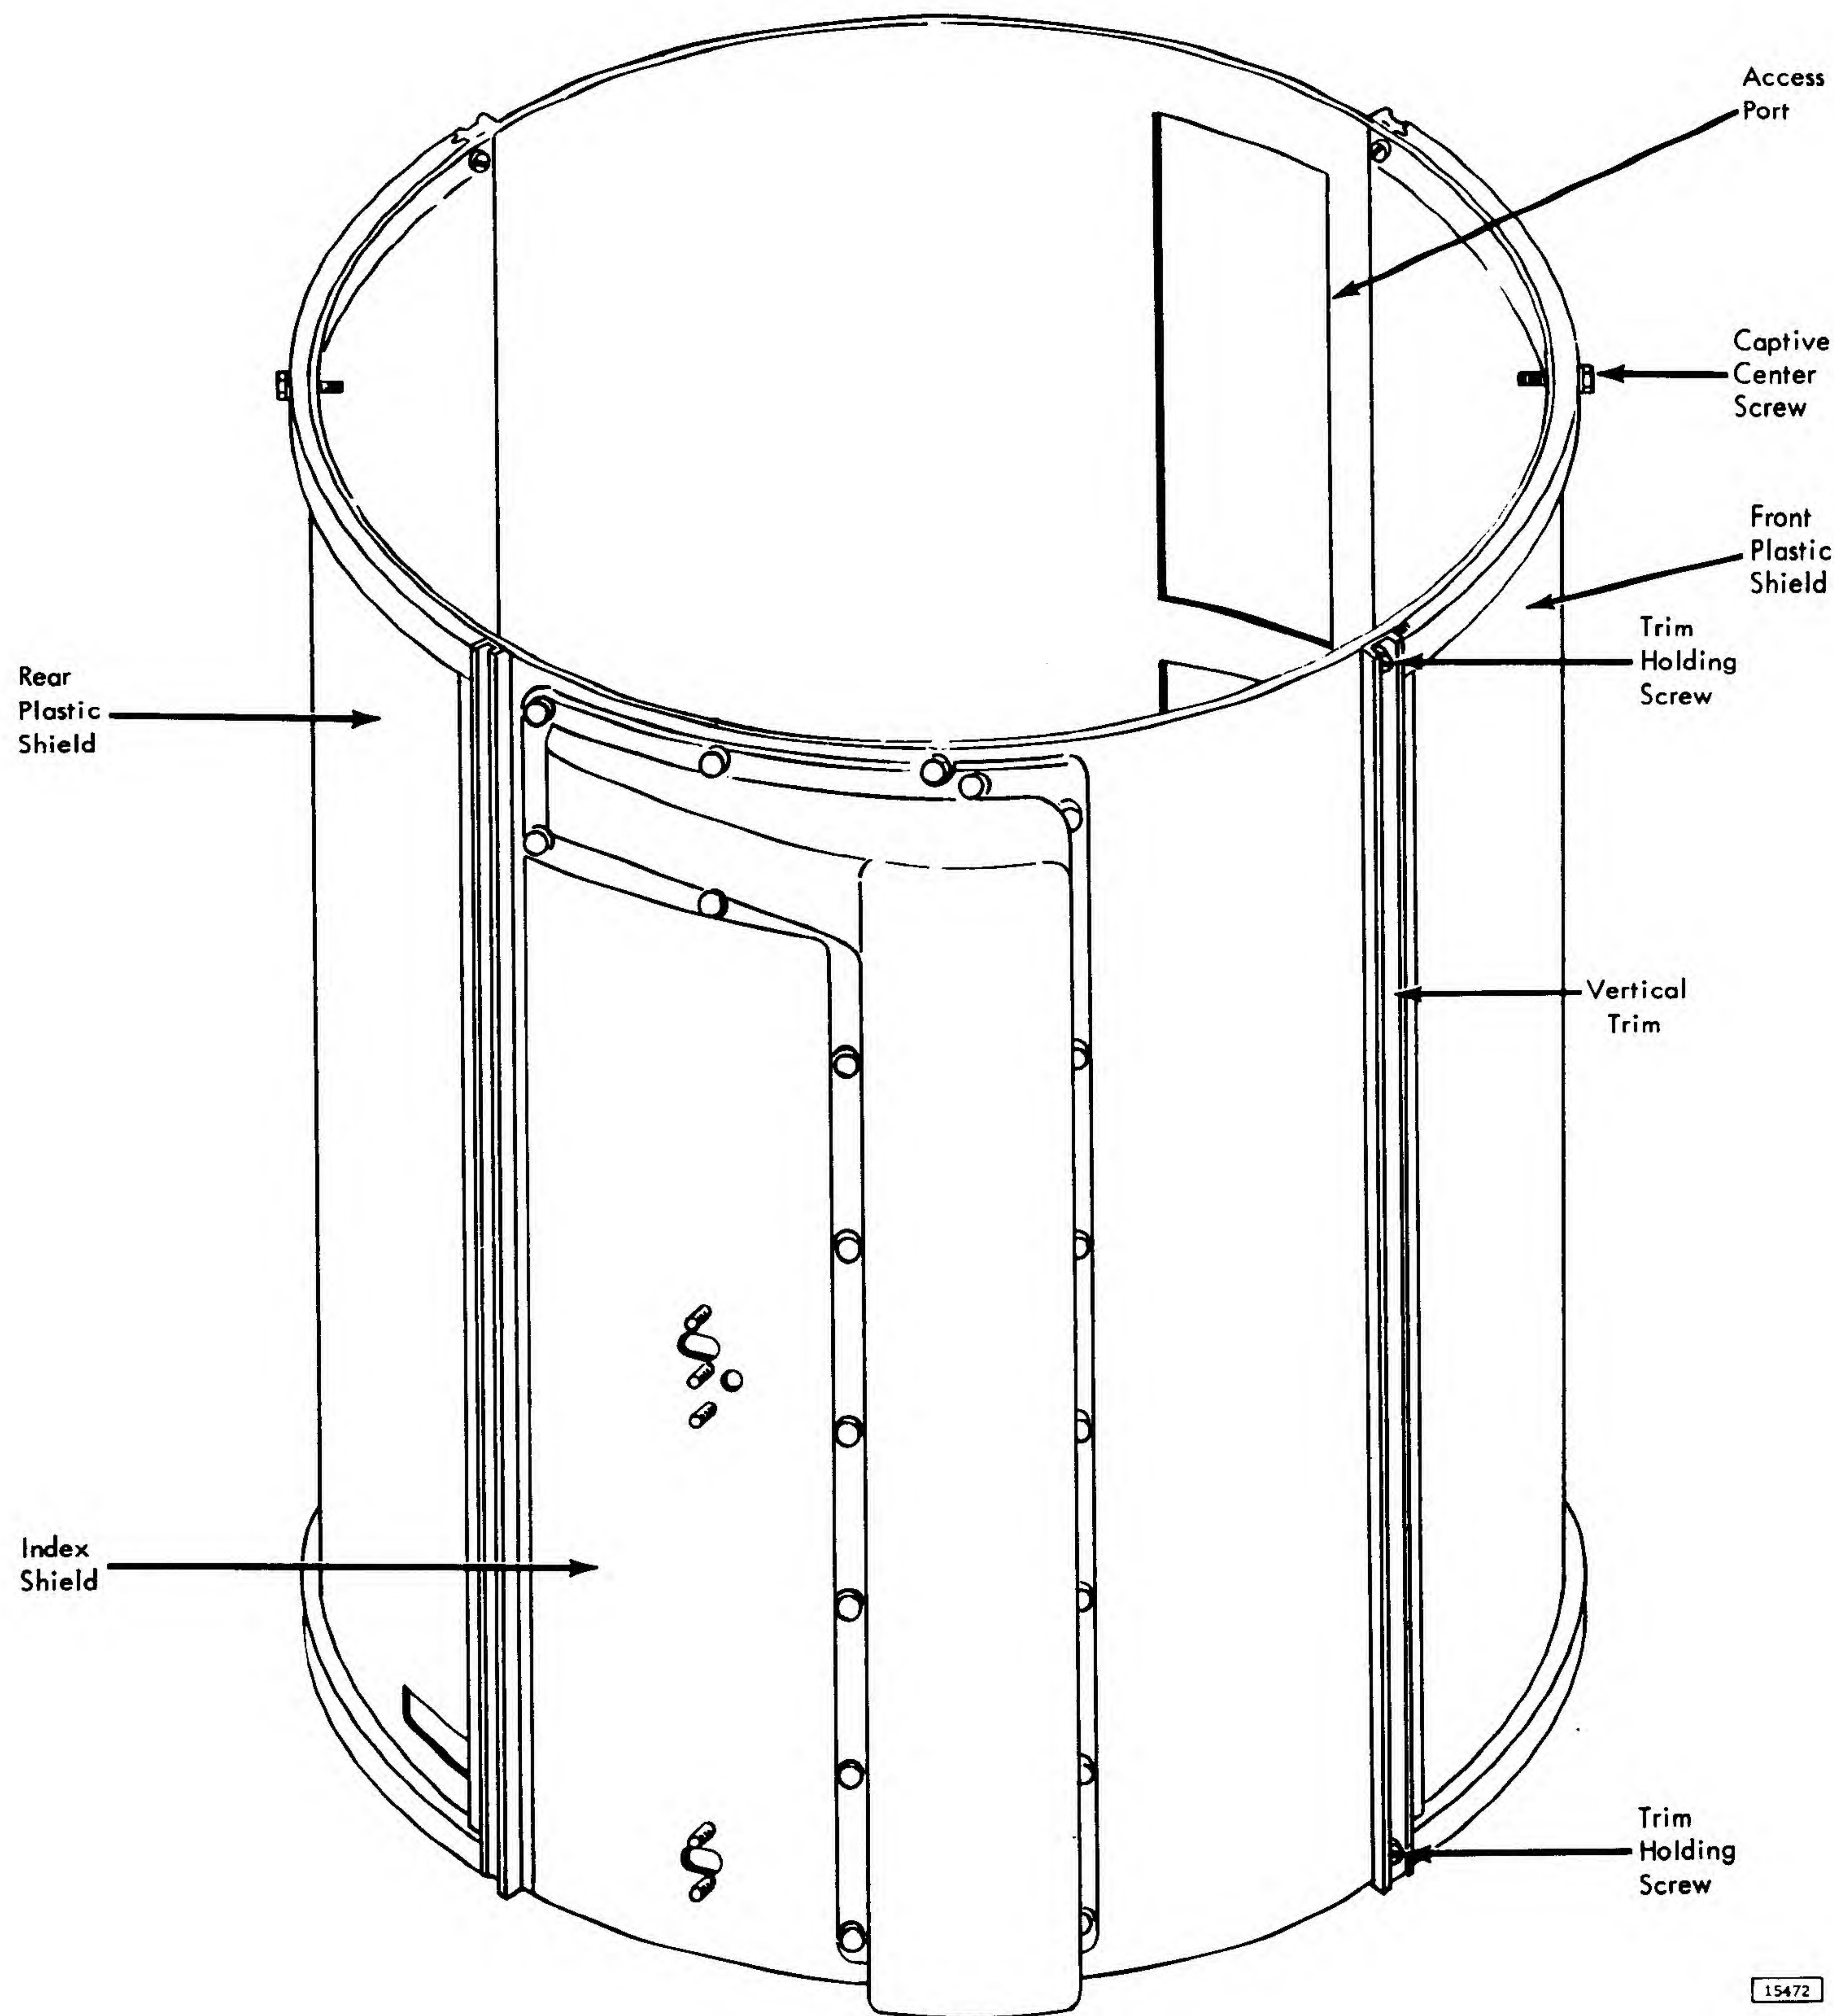

Figure 2-1. Disk Array Shields
Plastic Shields - Front and Rear (Figure 2-1)
5. Remove vertical trim (Figure 2-1).
Replacement (Figure 2-1)
Index Shield (Figure 2-1)
Access Port Shield (Figure 2-1)